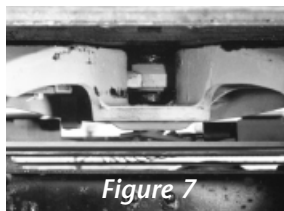

Figure 7
a. The trailer bed plate is resting on the top surface of the fifth wheel plate (Figure 7). **NO GAP** is visible between the fifth wheel and trailer bed plate.
- c.** When locked, the kingpin is in the fifth wheel slot with jaw closed behind pin. The lock is engaged when the jaw and lock tip are visible in the fifth wheel slot (Figure 7). This must be viewed from the rear. Use a flashlight if available light is not adequate.